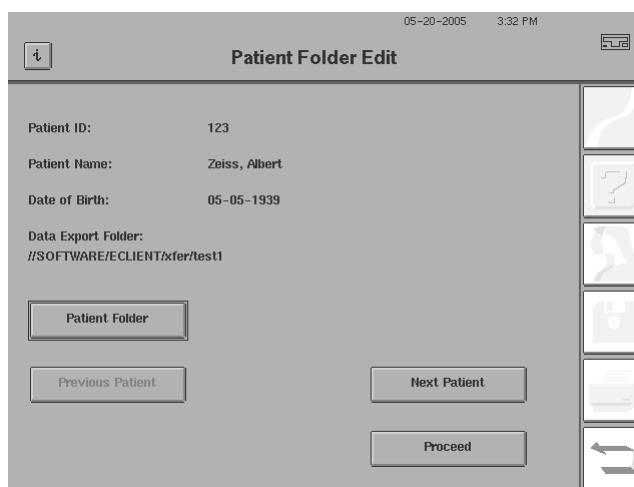

Figure 14.32 Patient Folder Edit Screen
- 6 Select PROCEED. The Patient Folder Edit screen will appear, as is shown in Figure 14.32.